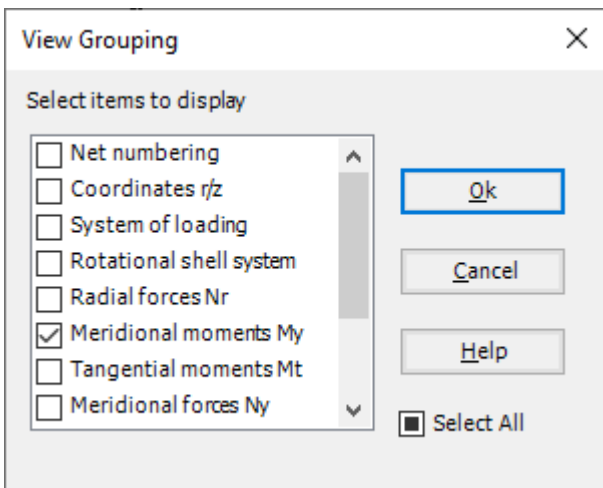

Figure 9.33 "View Grouping" check group box
- From "Options" menu in the "Graphic" tab, choose "View Grouping" command. The "View Grouping" check group box in Figure 9.33 appears